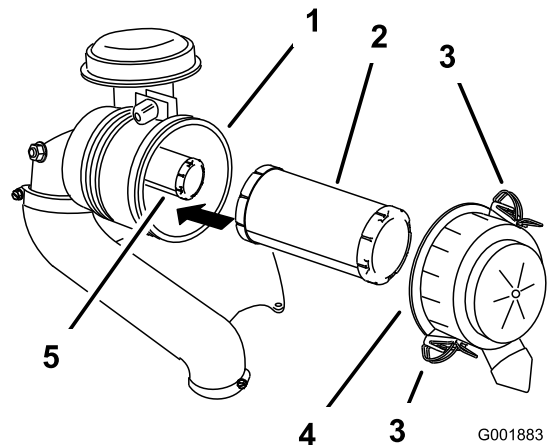

Figure 46
3. Release the latches on the air cleaner and pull the air cleaner cover off the air cleaner body (Figure 46).
5. Gently slide the primary filter out of the air cleaner body (Figure 46).
2. If the safety filter is being replaced, carefully slide it into the filter body (Figure 46).
3. Carefully slide the primary filter over the safety filter (Figure 46).
4. Install the air cleaner cover with the side indicated as up facing upward and secure the latches (Figure 46).